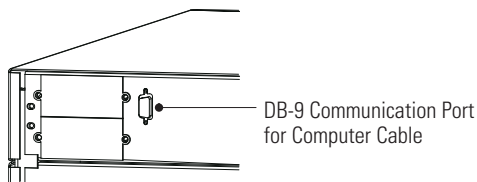

Figure 49. Communication Port
4. If you are installing power management software, connect your computer to the UPS communication port (shown in Figure 49) using the supplied communication cable.